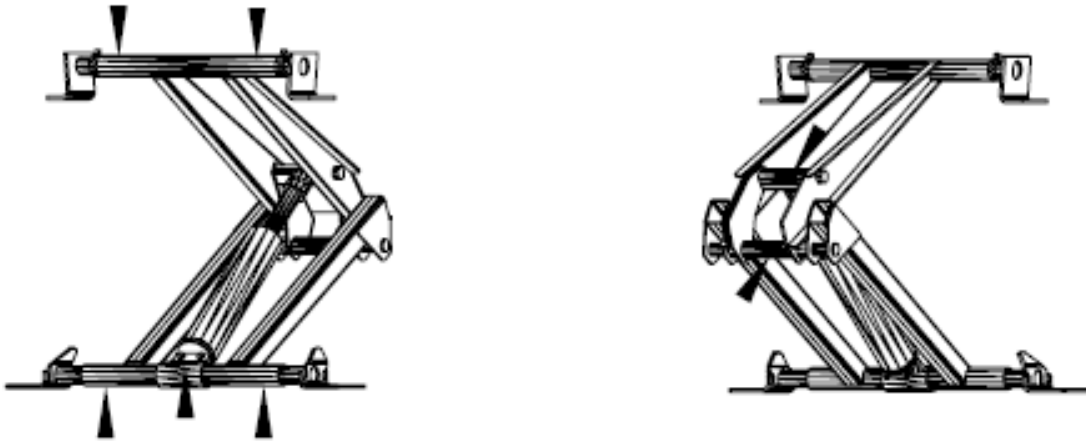

FIGURE 8 - GREASE ZERK LOCATIONS LR-416
12. Install all grease fittings. For grease fitting locations, refer to Figures 8, 9 or 10 on page 10. Torque each grease fitting to 70 in./lb. Lubricate all grease fittings upon installation.